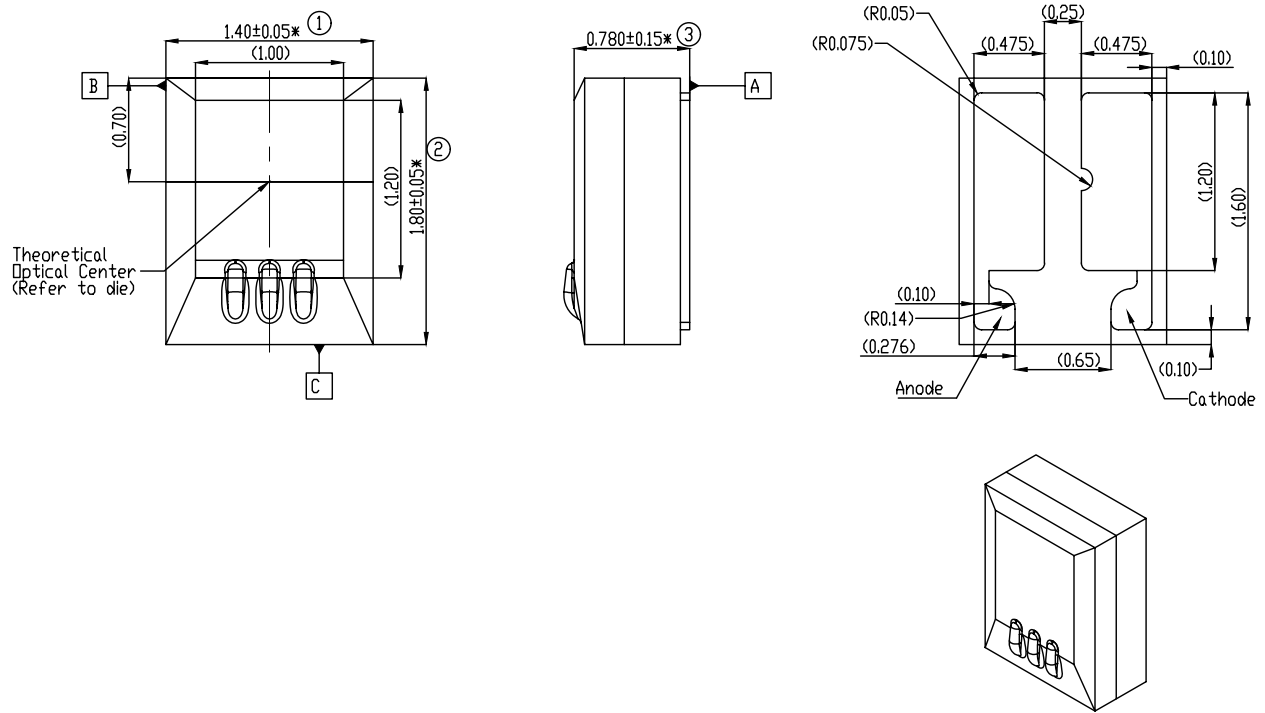

Figure 11b. Mechanical dimensions for LUXEON Rubix L1RX-RED1000000000 Color.
- Notes for Figures 11b and 11c: